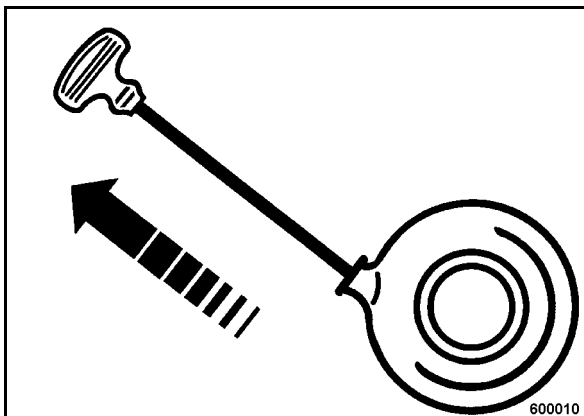

Fig. 24
- Pull the starter handle (Fig. 24) quickly and powerful as far out as possible.